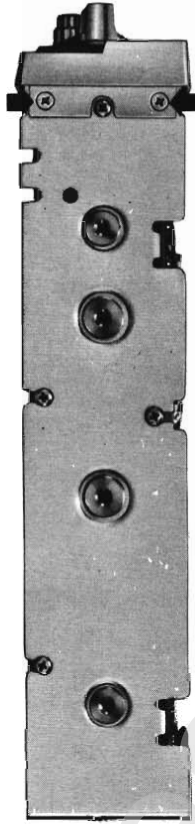

Figure 2
2. To remove Front Panel: (Figure 2)